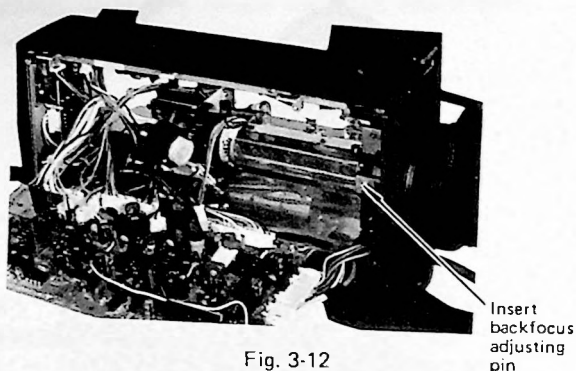

Fig. 3-12
- Insert the backfocus adjusting pin into the hole and confirm that the deflection coil moves back and forth by turning the backfocus adjusting pin. (Fig. 3-12)